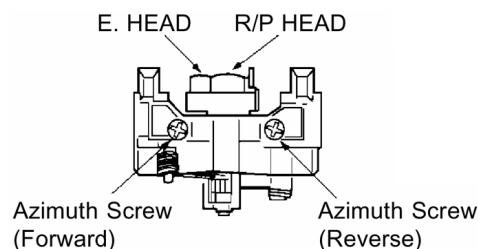

Fig. 3
3. Playback the azimuth adjustment portion (8kHz, -20dB) of test tape (QZZCFM). Adjust the azimuth adjusting screw until the outputs of the L/Rch are maximized. (Refer to Fig. 3)
4. Confirm that the reading of the laser power meter is within the standard value. If the value is out of the range, adjust VR1. (Fig. 3)
6. Adjust VR1 until reading the standard value. (Fig. 3)